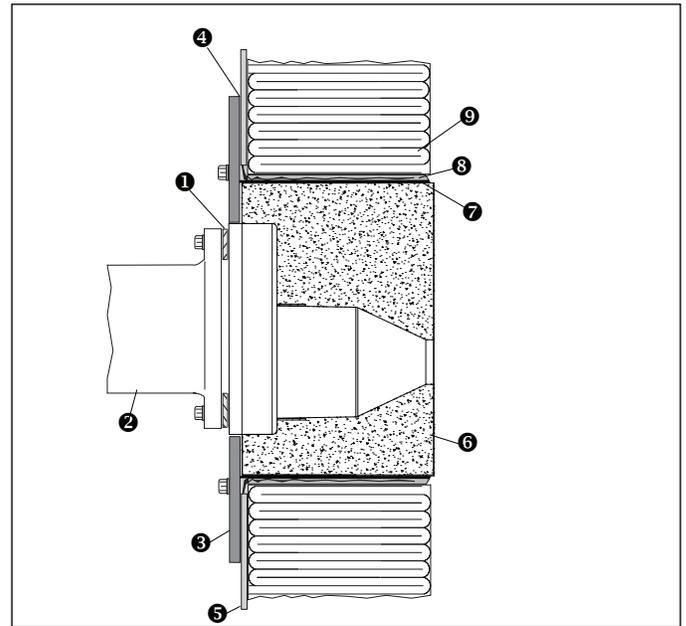
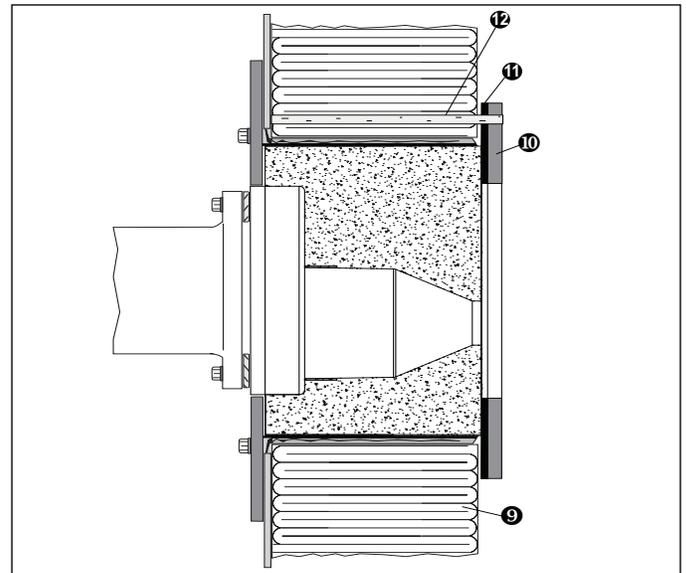

Figure 3.4 Fiber Lined Furnaces
Figure 3.5
(See Figure 3.4 and Figure 3.5)
- For applications exceeding 2200 °F (1200 °C) install a ceramic fiber board shield 10 suitable for the furnace design temperature as illustrated in Figure 3.5.